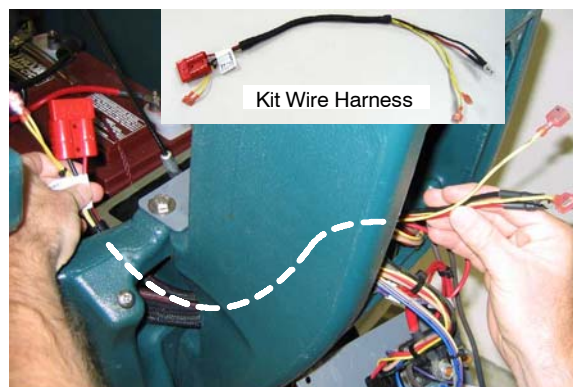

Fig. 3
2. Locate the two yellow wires with open terminals (wires #4 & #54) (Figure 3).